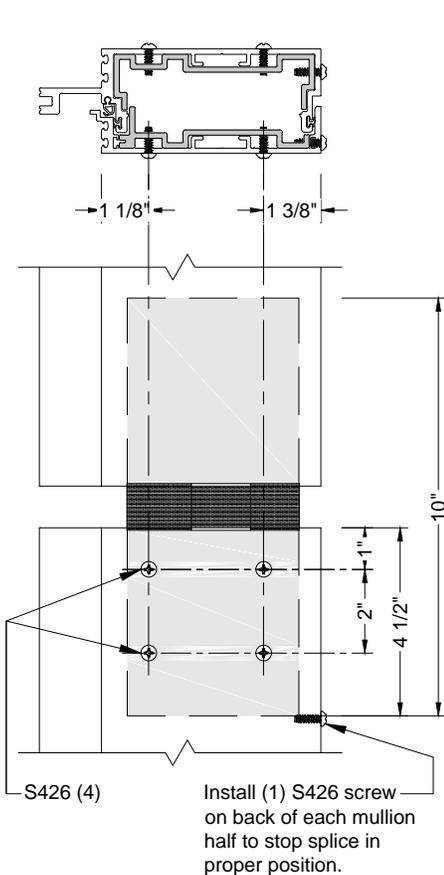

Fig. 42.1
- Drill holes on both sides of the lower frame vertical in the locations shown on approved shop drawings. Install a positioning screw at the lower verticals to act as a splice sleeve stop. See Fig. 42.1.